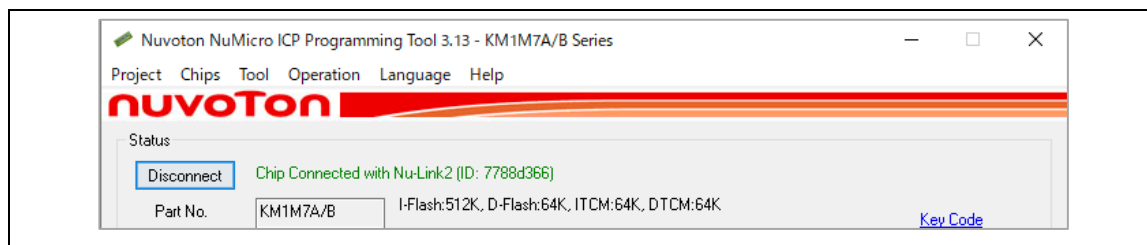

Figure 4-32 Disconnection Settings
- Figure 4-32 shows ICP Disconnection Settings. Once the firmware has been updated and the connection completed, click the <Disconnect> button on the screen in Figure 4-32 to exit ICP.